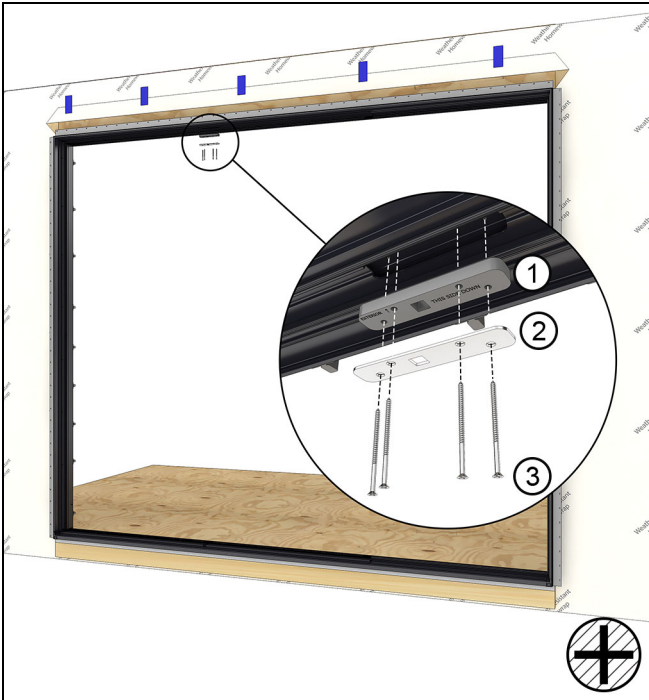

Figure 60
14. On OOX or XOO configurations, install the lock bar strike and backer plate at the rout in the head jamb. Shim and fasten with the 3" stainless steel screws provided. Do not over-tighten. Tighten screws until snug only. See Figure 60.